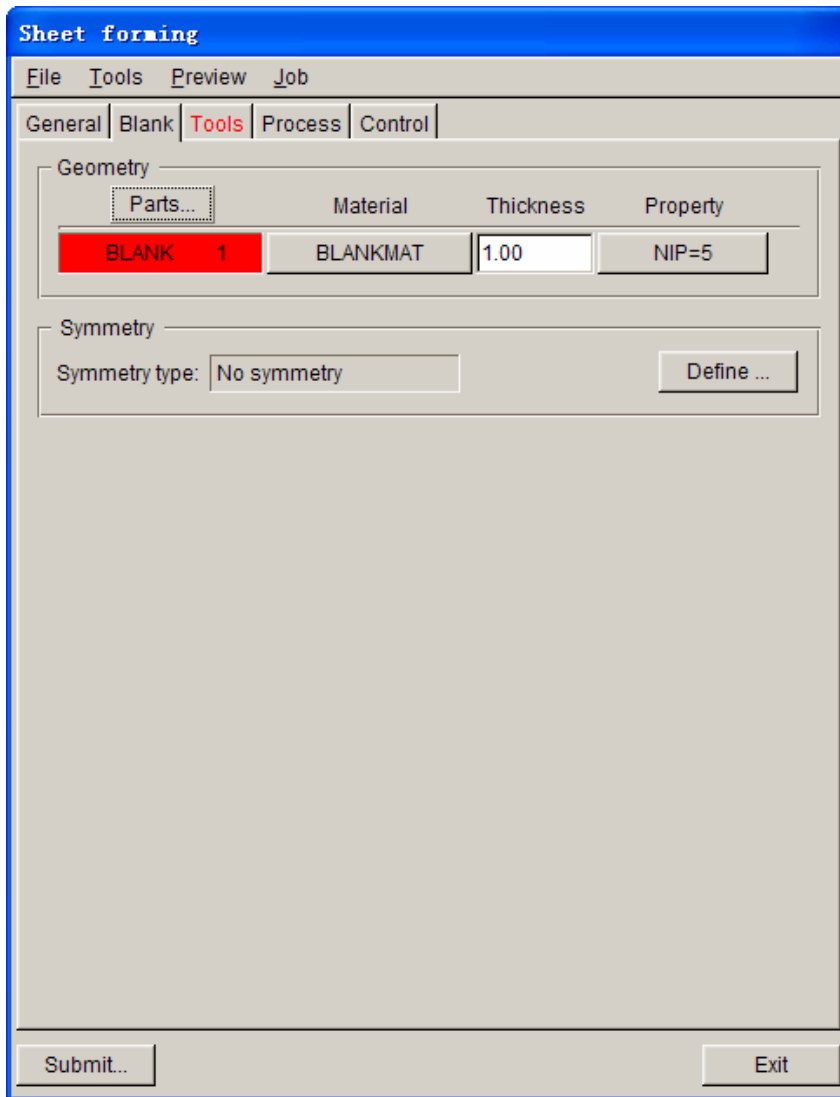

Figure 4.10 Blank definition interface
6. Click the Exit button to return to the blank definition interface. Now, the color of Blank tab is changed to from RED to BLACK. See Figure 4.10.